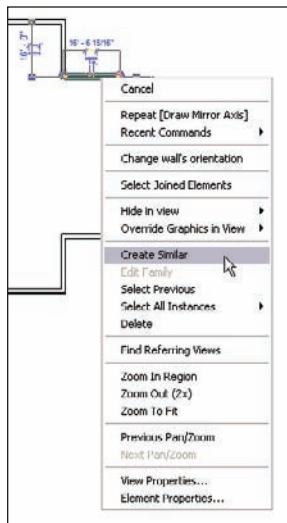

FIGURE 1.29 You can select any item in Revit and create a similar object by right-clicking and selecting Create Similar.
5. Select Create Similar, as shown in Figure 1.29.